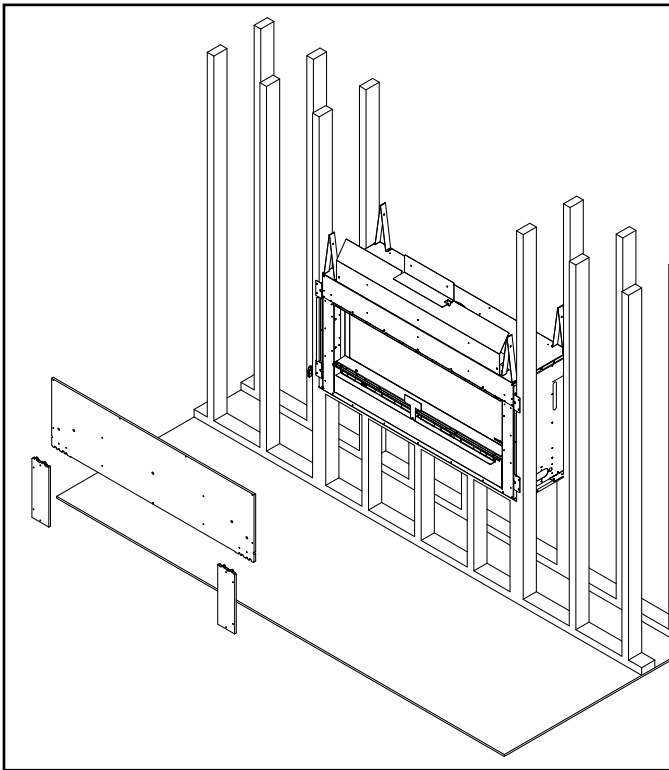

Figure 6.5 Install Factory-Included Non-Combustible Facing Material
- Attach top board to the framing members with regular sheetrock screws or nails. See Figure 6.5.